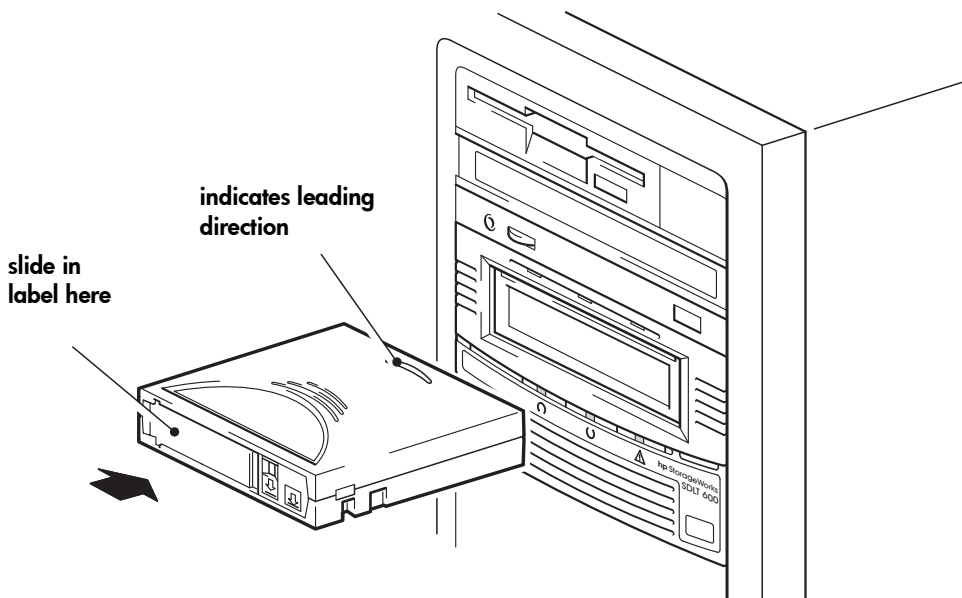

Figure 9a: loading a cartridge
- 1 Insert the cartridge into the slot in front of the drive with the markings uppermost and facing the drive door. Apply gentle pressure until the drive takes the cartridge and loads it. (See Figure 9a.)